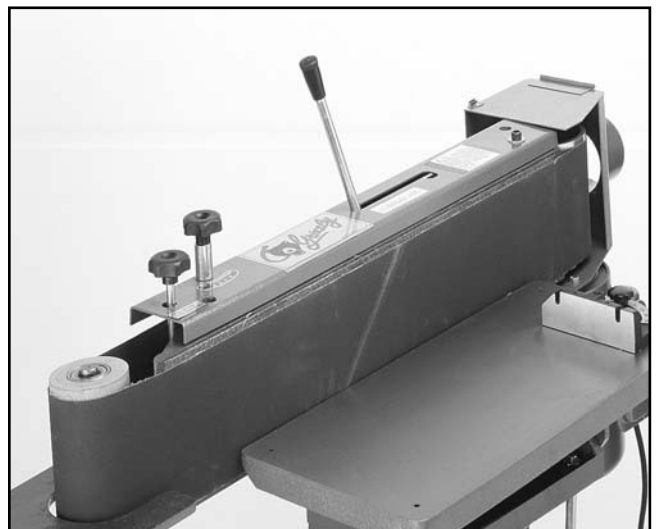

Figure 18. Belt installed.
3. Slide the belt over the rollers. Move the quick release lever back to its tensioned position. **See Figure 18.** Belt tracking is covered in the next section.